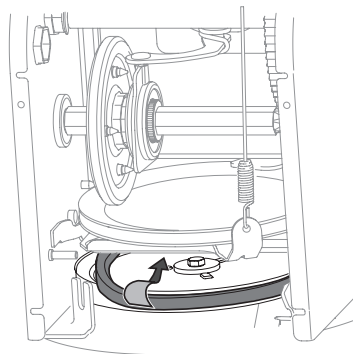

Figure 4-18
- Remove belt from around auger pulley, and slip it between support bracket and auger pulley. See Figure 4-18.